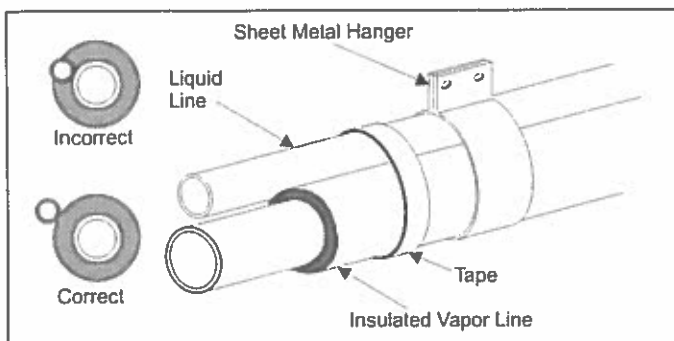

FIGURE 4: Installation of Vapor Line
- Liquid lines should not be in bare contact with suction line. See Figure 4.